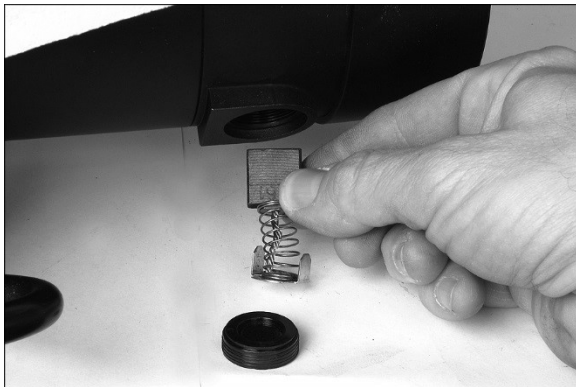

Figure 28
Referring to Figure 28:
2. Unscrew cap (A, Figure 28) using a screwdriver or coin, and withdraw brush.